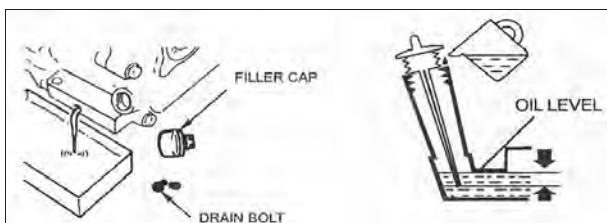

Fig. 19C
9.6.3 Remove the drain bolt and drain the oil into the container by slightly tipping the engine toward the oil cap/dipstick. (Fig. 19C)